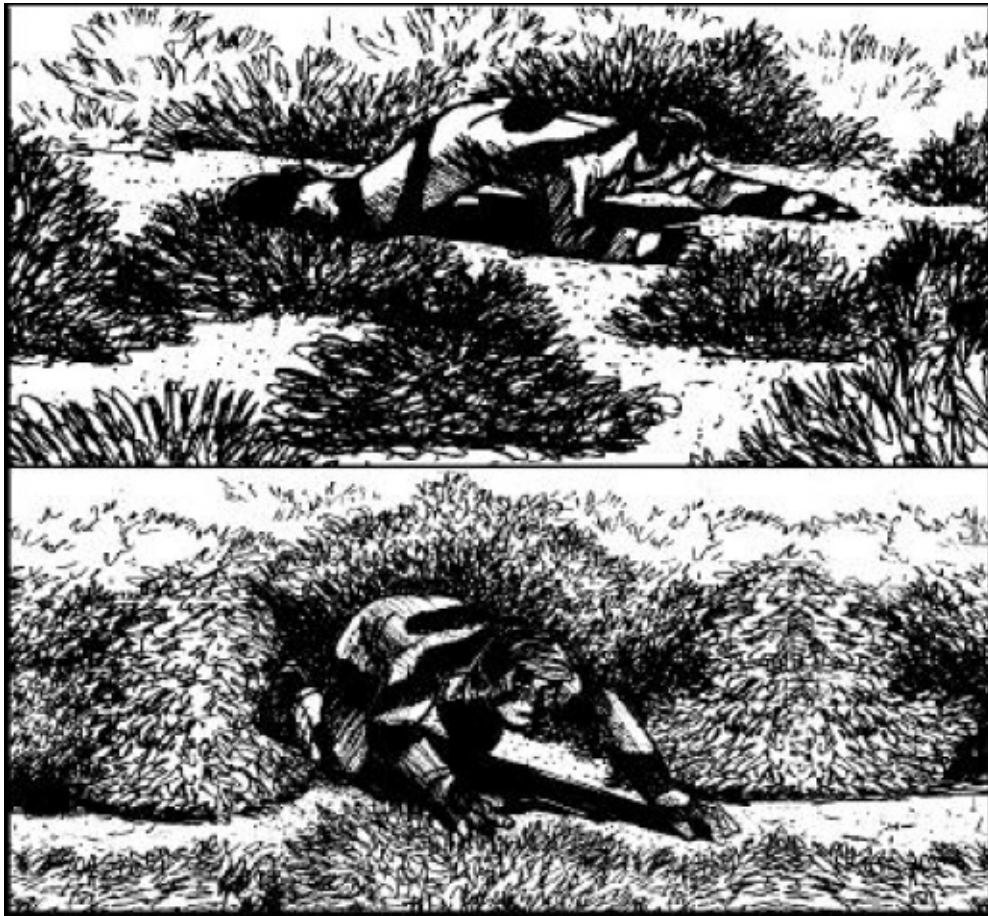

Figure 1-2. Ground movement
(1) Mask with natural cover (**Figure 1-2**).
(2) Use the military crest.
(3) Restrict to periods of low light, bad weather, wind, or reduced enemy activity.